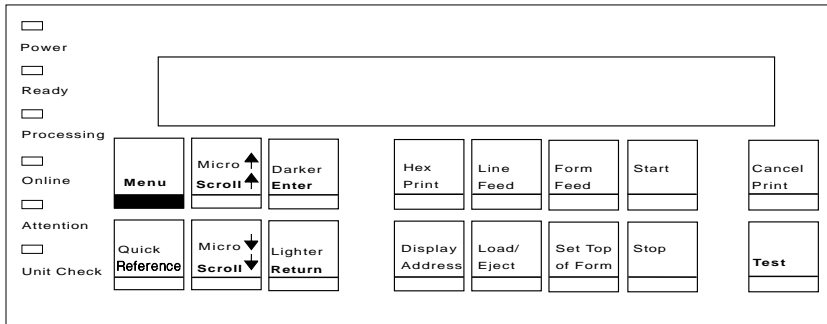
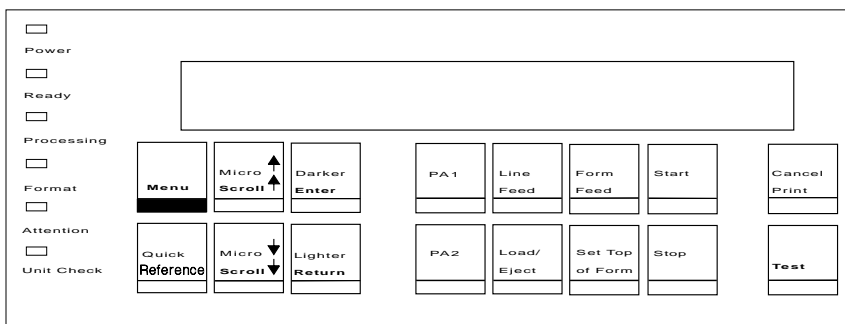
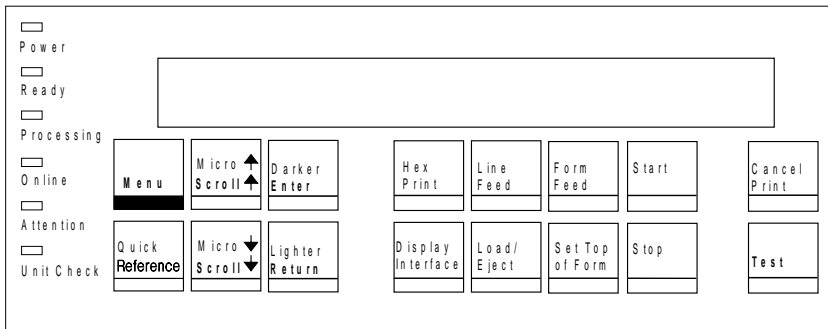

Figure 1-1. 4230 Printer Models 101 and 1S2 Operator Panel
Figure 1-2. 4230 Printer Models 201 and 2S2 Operator Panel
Figure 1-3. 4230 Printer Model 4S3 Operator Panel
3. Use the following figures to learn the location of keys and indicators on the operator panel. Figure 1-1, Figure 1-2, Figure 1-3 on page 1-13, and Figure 1-4 on page 1-13 show the operator panel for each model.